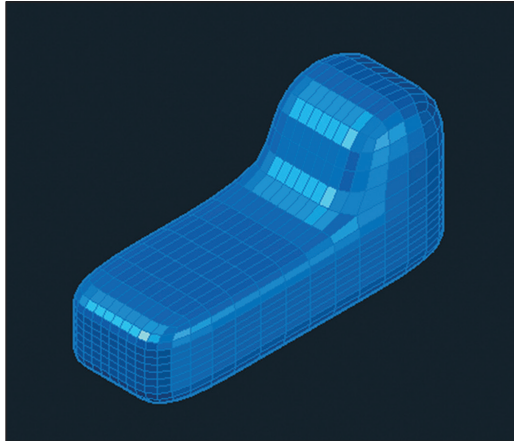

FIGURE 17.33 Refining a smoothed mesh
6. Click the Refine Mesh tool in the Mesh panel, select the mesh object, and press Enter. A denser, smoother mesh is the result (see Figure 17.33).